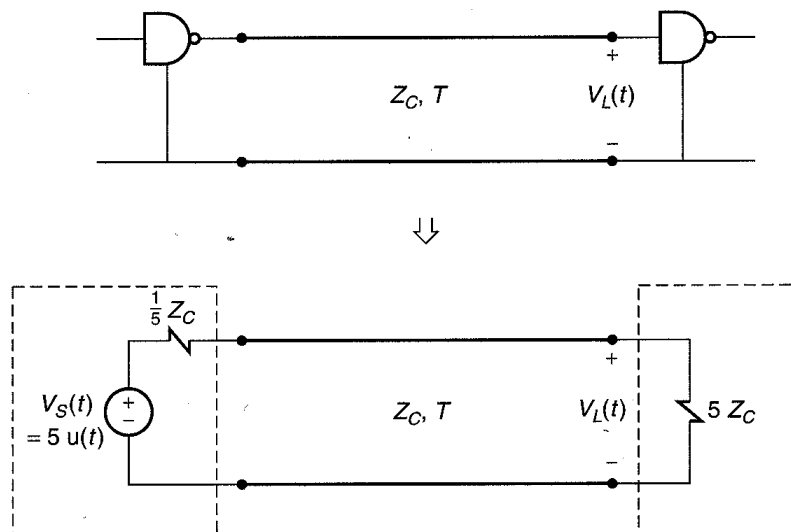

Figure P6.2.16 Problem 6.2.16.
6.2.16. Highly mismatched lines in digital products can cause what appears to be “ringing” on the signal output from the line. This is often referred to as “overshoot” or “undershoot” and can cause digital logic errors. To simulate this we will investigate the problem shown in Fig. P6.2.16. Two CMOS gates are connected by a transmission line as shown. A 5-V step function voltage of the first gate is applied. Sketch the output voltage of the line (the input voltage to the load CMOS gate) for $0 < t < 9T$.